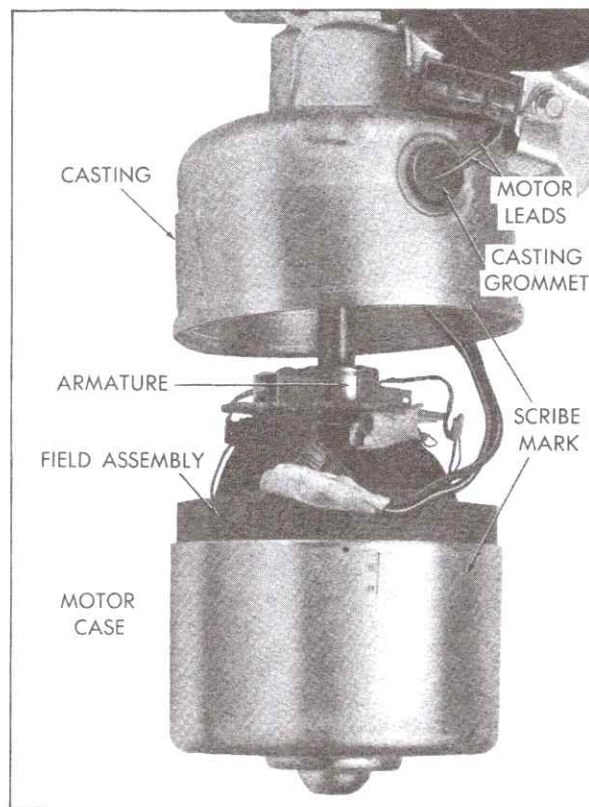

Fig. 12-26 Separating Motor Case from Casting
1. Scribe a reference line along the side of the casting and motor case to insure proper reassembly, Fig. 12-26.
the motor case and field assembly and armature away from the casting, Fig. 12-26.